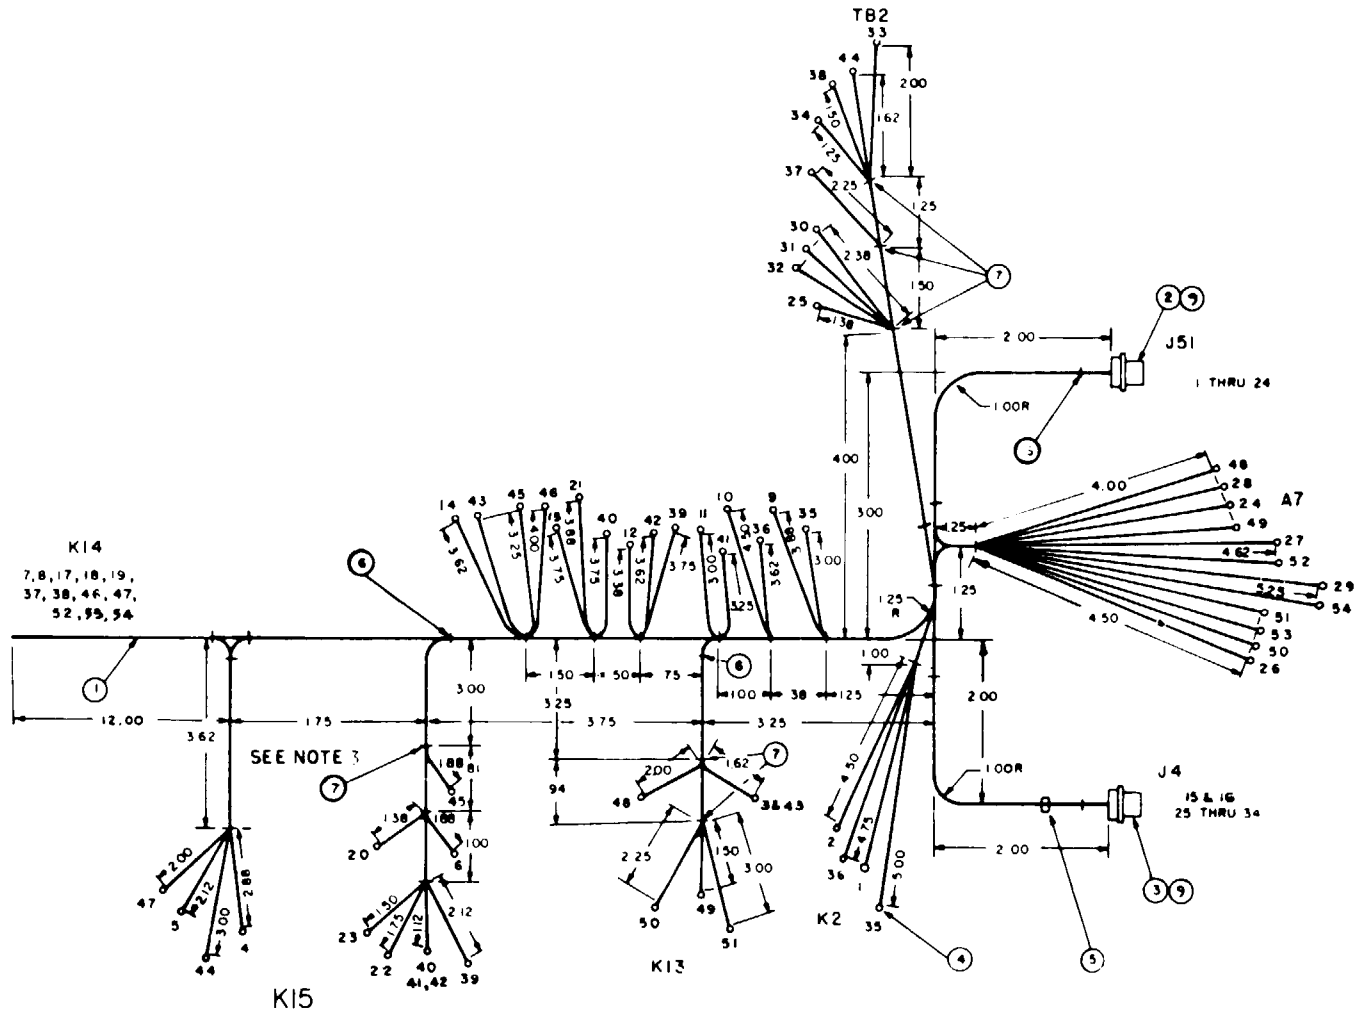

Figure 6-48. Tactical Relay Box (A29), wiring harness (sheet 1 of 2)
a. Repair or fabricate tactical relay box wire harness in accordance with figure 6-48.
a. Install wire harness (6) in chassis assembly (31) and secure in position with eight screw assemblies (2 and 3) and nuts (4 and 5).
b. Assemble governor resistor assembly (19) and terminal board (9) to bracket (30), then install the assembly in chassis assembly (31).
c. Install overvoltage relay (11), overload relay (13), short circuit relay (15), and reverse power relay (17) in position using four each screw assemblies.
d. Refer to figures 6-48 and 1-19 and connect wire harness leads to componentry.